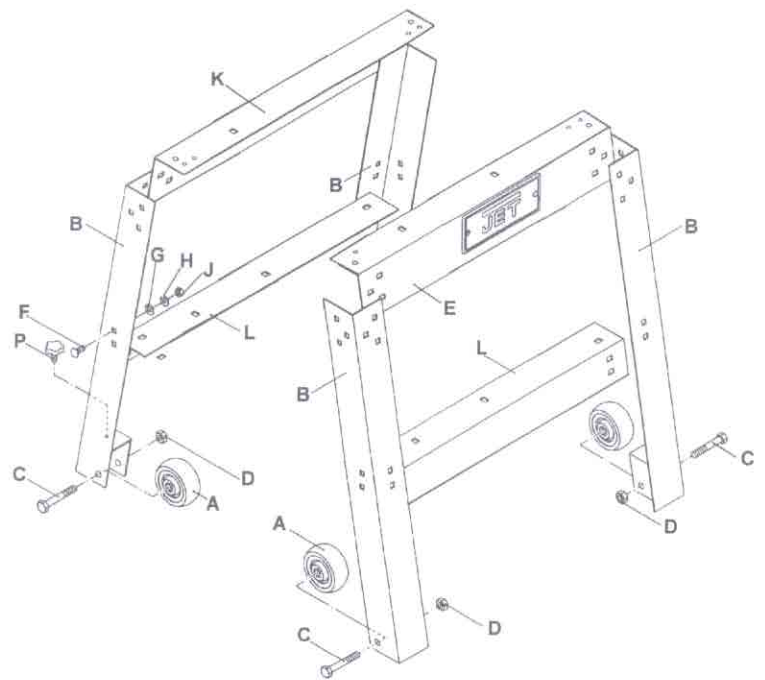

Fig. 3
1. Attach wheels (A, Fig. 3) to the stand legs (B, Fig. 3) with four 3/8" x 2-1/2" hex cap bolts (C, Fig. 3) and four 3/8" nyloc lock nuts (D, Fig. 3).
2. Thread four caster locks (P, Fig. 3) into leg brackets. Tighten caster locks.
3. Attach stand top front (E, Fig. 3) to stand legs with six 5/16" carriage bolts (F, Fig. 3), six 5/16" flat washers (G, Fig. 3), six 5/16" lock washers (H, Fig. 3), and six 5/16" hex nuts (J, Fig. 3).
4. Attach stand top rear (K, Fig.3) to remaining legs with carriage bolts, flat washers, lock washers, and hex nuts.
5. Attach two long cross braces (L, Fig. 3) to each stand leg assembly with carriage bolts, flat washers, lock washers, and hex nuts.